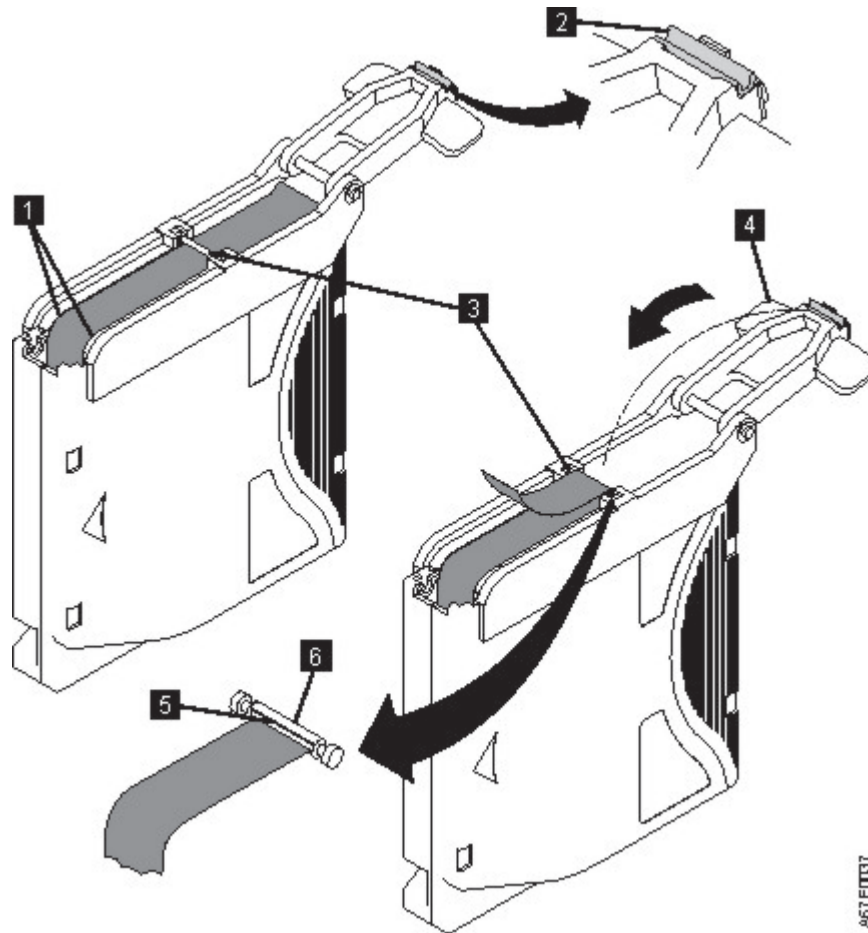

Figure 100. Attaching the leader pin to the tape
7. Position the tape in the alignment groove of the leader pin attach tool (see 1 in Figure 100 on page 171).
8. Place a new C-clip into the retention groove (2 (Figure 100 on page 171) on the leader pin attachment tool and make sure that the clip's open side faces up.
9. Place the leader pin (from step 6) into the cavity (3 (Figure 100 on page 171) of the leader pin attach tool.
10. Fold the tape over the leader pin and hold it with your fingers (see Figure 100 on page 171).